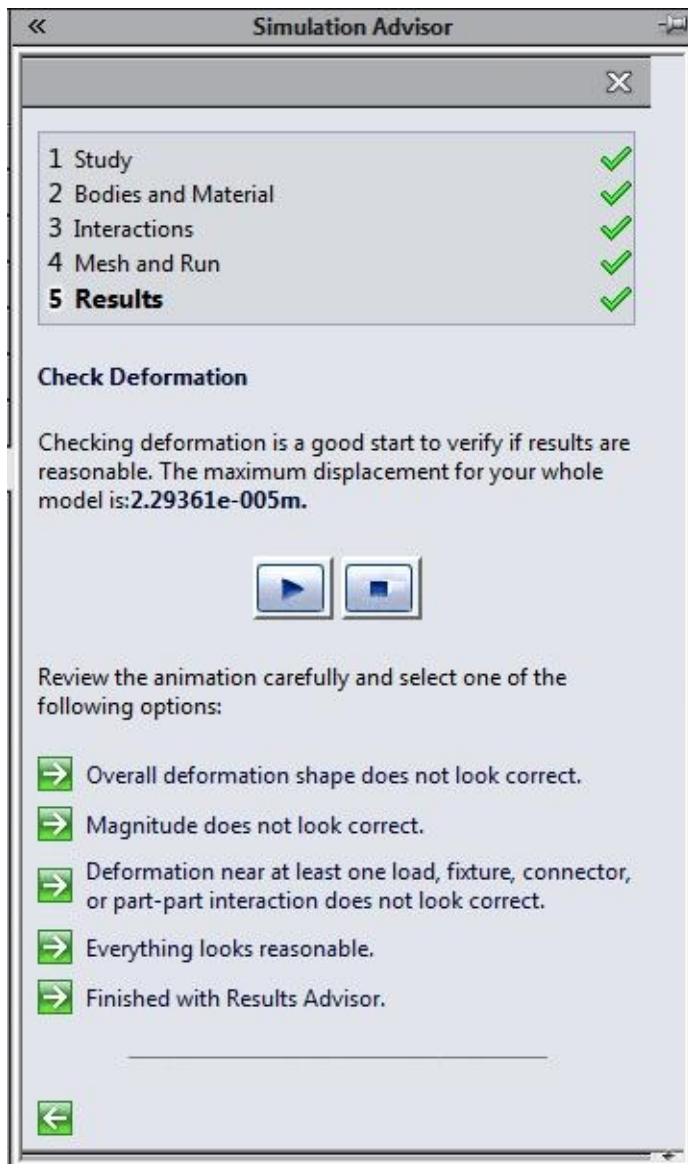

Figure-85. Results page Simulation Advisor
This tool is used to display the result page of the **Simulation Advisor**; refer to Figure-85. The steps to use the options in this page of Simulation Advisor are given next.
- Click on the **Play** button from the **Simulation Advisor** to plot the simulation of the applied analysis. Note that the limits of deflection are displayed in the **Simulation Advisor**. For example, in Figure-85, the maximum deflection is **2.29361e-005m**.